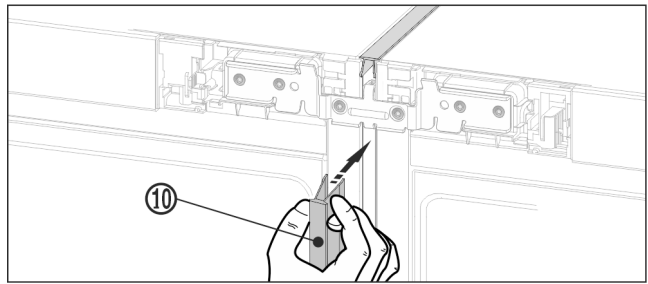

Fig. 27
- ▶ On the front, press the long cover strip Fig. 27 (10) into the vertical gap. Ensure that the strip rests on the connecting plate.